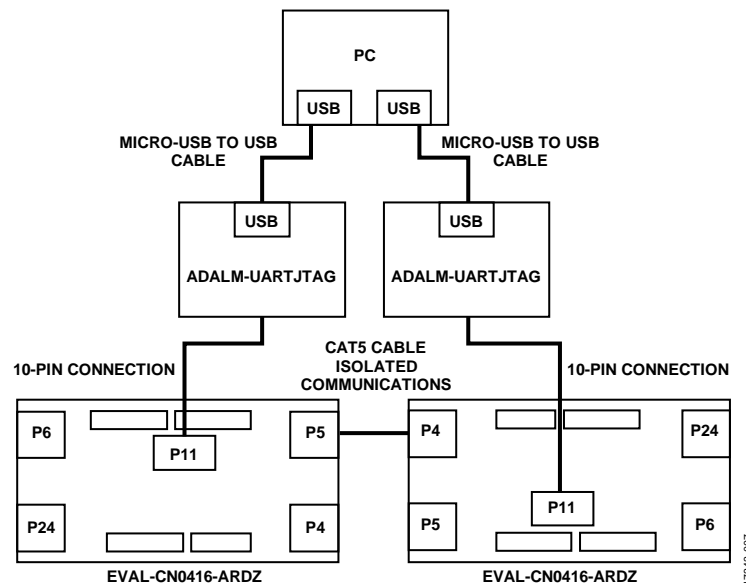

Figure 7. Isolated Full-Duplex RS-485 Connection Diagram for Direct Communications
To set up the connection diagram shown in Figure 7, take the following steps:
- a. For isolated communications, connect P4 of one board to P5 of the other board or vice versa. Figure 7 shows the setup connections for isolated communications.